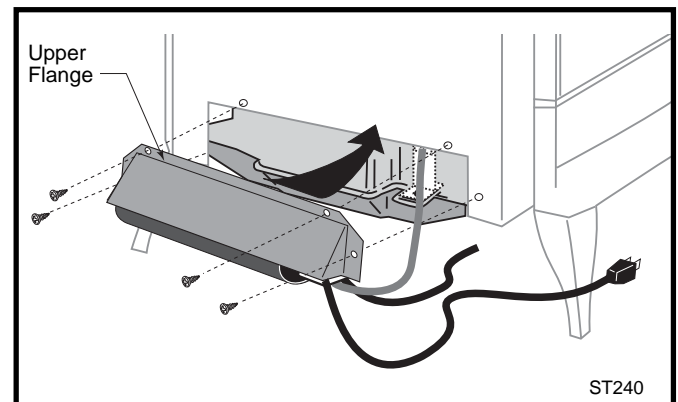

Fig. 18 The upper flange of the fan skirt should be located behind the lower edge of the shroud.
1. Attach the Snapstat to the Bracket using two #10 x 1/2" phillips sheet metal screws as shown in Figure 18.
3. Attach the Fan to the firebox by engaging the upper flange of the fan skirt under the lower edge of the Shroud and secure the skirt with the four screws provided with the kit. (Figs. 18, 19)